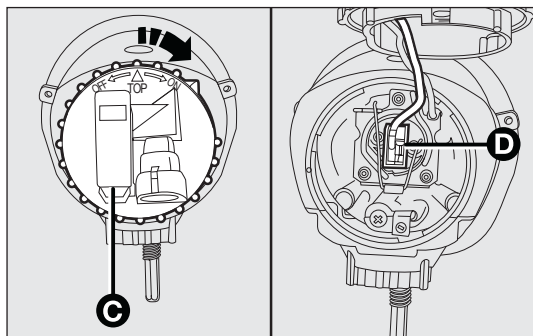

fig. 150
- ☐ loosen the cover C-fig. 150 and remove the connector D;